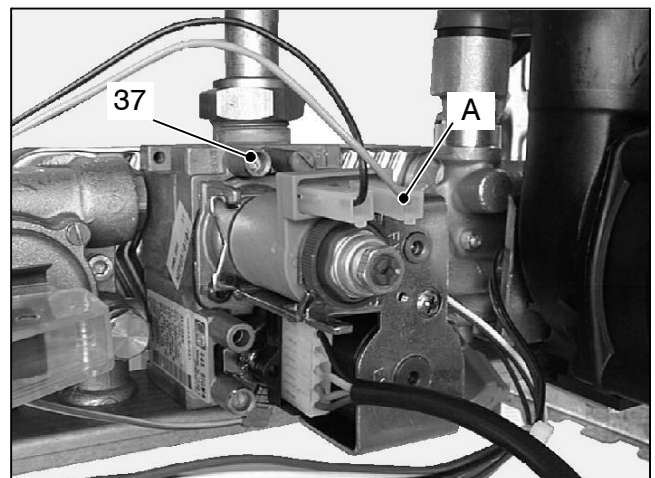

fig. 7.5
- 2 Loosen the internal screw 37 (fig. 7.5) on the Outlet Pressure Test Point of the Gas Valve and connect a pressure gauge using a suitable hose.
- 8 Disconnect the gas modulator coil by removing the electrical connector A (fig. 7.5).
- 3 Unscrew the gas valve's outlet pressure test point 37 (fig. 7.5) and connect a pressure gauge.